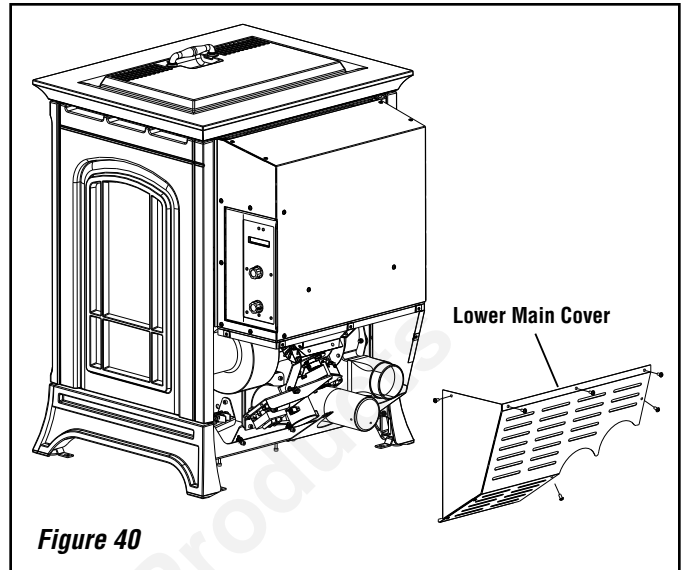

Figure 40
There are three removable covers on the rear of the stove. For normal maintenance, the lower main cover (Figure 40) should yield sufficient access to all necessary components. It may be necessary to remove the lower side and bottom covers for the initial installation.
2. Locate the cover (Figure 40), using a 5/32" allen wrench, loosen the two screws on the bottom of the panel (it is not necessary to completely remove them).